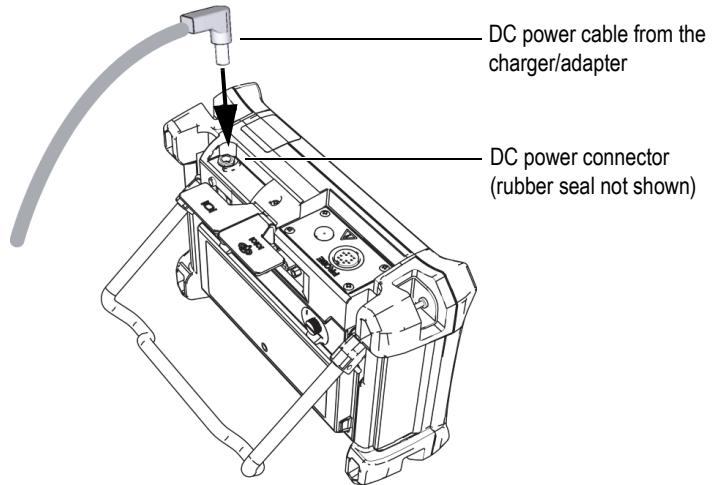

Figure 1-9 Connecting the DC power cable
3. Connect the DC output power cable from the charger/adaptor to the DC power connector on top of the NORTEC 600 (see Figure 1-9 on page 35).